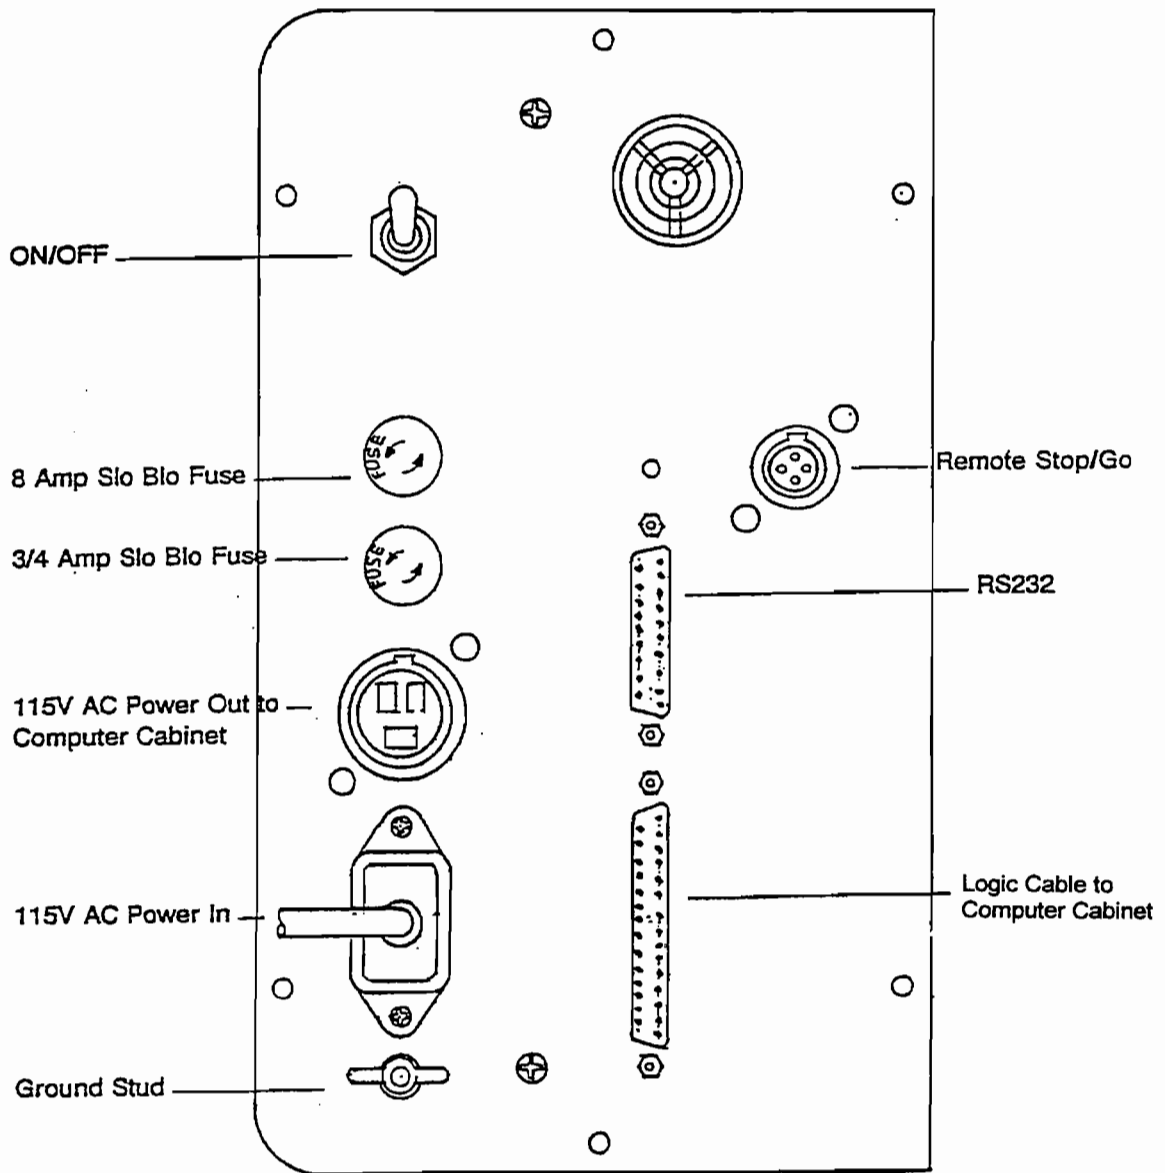

Figure 2
3.4 LX3 Pendant Back Panel (*Figure 2*)
See Figure 2 for a description of the fuses, switches, and connectors on the pendant back panel.